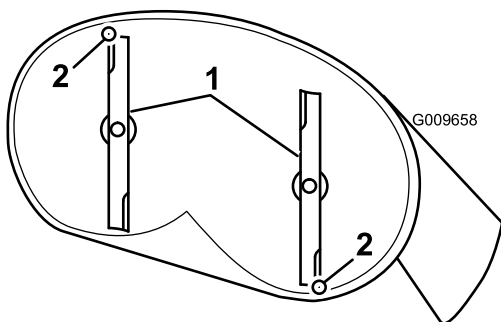
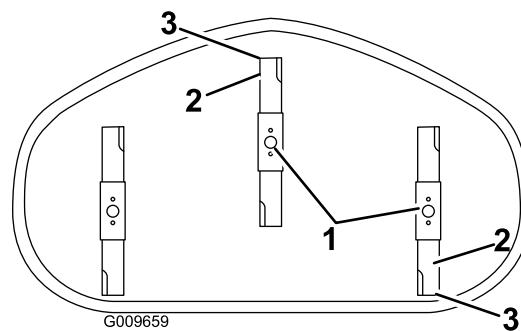

Figure 62
Figure 63
4. Carefully rotate the blades so that they are facing front to rear (Figure 62 and Figure 63).
5. Measure from the tip of the front blade to the flat surface, and the tip of the rear blade to the flat surface (Figure 62).
7. After adjustment, check the front-to-rear slope again, continue adjusting the nut until the front blade tip is 1.6 to 7.9 mm (1/16 to 5/16 inch) lower than the rear blade tip (Figure 62).